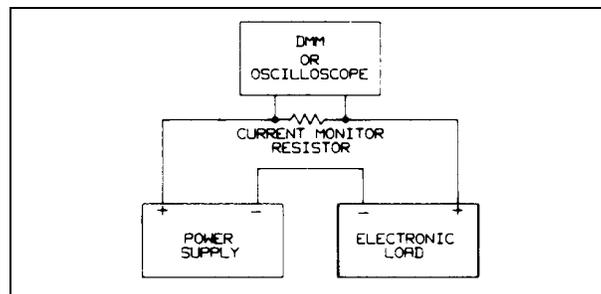

Figure 2-1. Test Setup A
Table 2-1 lists the test equipment required to perform the tests in this chapter. Test setups for the tests are shown in Figures 2-1 through 2-3. Make sure the sense switch on the rear of the module is set to the LCL position since local sensing is used in all of the test setups. Use adequate wire gauge when making connections (see Chapter 3 in the Operating Manual).
- a. Connect the Electronic Load, power supply (Agilent 6031A or equivalent), DMM, and the 0.010 ohm current monitor resistor as shown in Figure 2-1.
- a. Connect the Electronic Load, power supply (Agilent 6032A or equivalent), and the 0.10 ohm current monitor resistor as shown in Figure 2-1. Use the DMM to measure the voltage across the monitor resistor and across the module's input terminals.
- a. Use the test setup of Figure 2-1 except connect an oscilloscope across the 0.10 current monitor resistor in place of the DMM. Set power supply for: